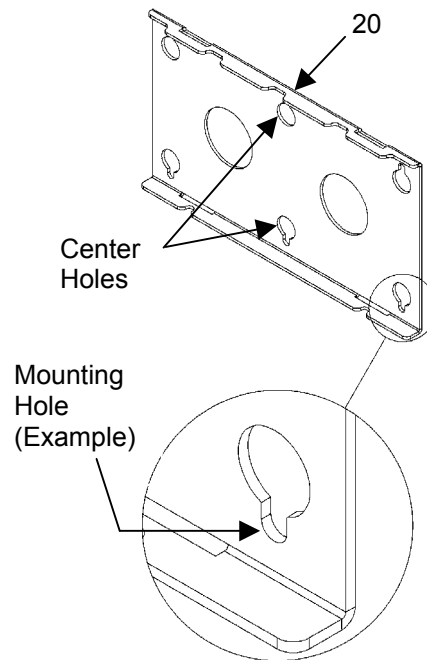

Figure 1. Installing Wall Bracket — Wall Stud
2. Position the wall bracket (20) as desired (see Figure 1).
3. Locate stud and, using wall bracket (20) as a template at the desired height, mark the location of the two center mounting holes.
4. Using the two wood screws (30), secure wall bracket (20) to wall.